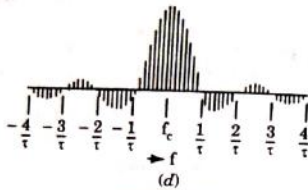

Fig. 4.10.4.
- a. An idealized rectangular waveform, with zero rise time and no overshoot is shown in Fig. 4.10.4(a).
- This is shown in Fig. 4.10.4(b), where a constant voltage, a fundamental frequency, and its third harmonic are added algebraically to form a wave which eventually becomes a square wave as more odd harmonics are added in phase with the fundamental.
- A spectral plot, in the frequency domain, would have the form given in Fig. 4.10.4(c), where the amplitude and phases of an infinite number of harmonics are plotted.